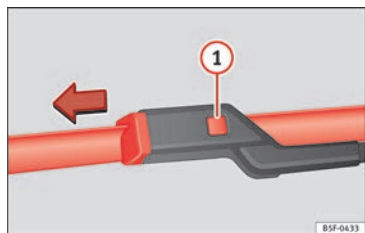

Fig. 89 Changing the windscreen wiper blade.
- Press the securing tab down ① »» Fig. 89.